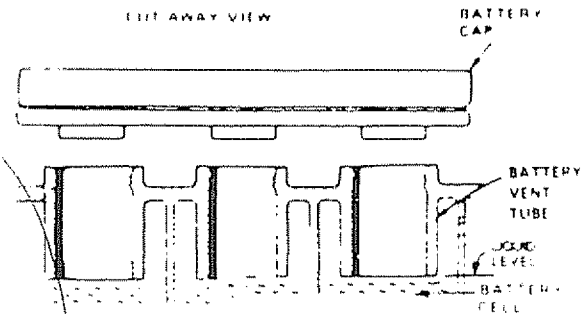

FIGURE 2
- Fill each cell with battery acid. Add the acid until it reaches the bottom of the vent tubes (Fig 2). Do not add the acid beyond this level or the additional acid can come out when the battery is charged.